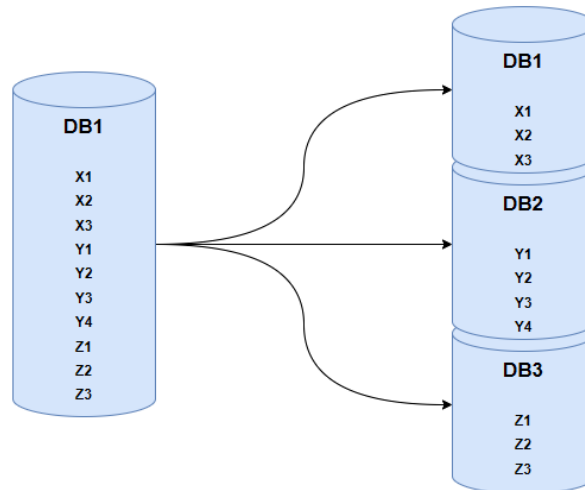

Figure 13.26 – An example of segregating data
*Figure 13.26* shows an example of mixed data in **DB1** on the left-hand side. If a variable was added, removed, or modified in this data block, the entire data block would be reinitialized. Then, groups of unrelated data would be set to the starting values.